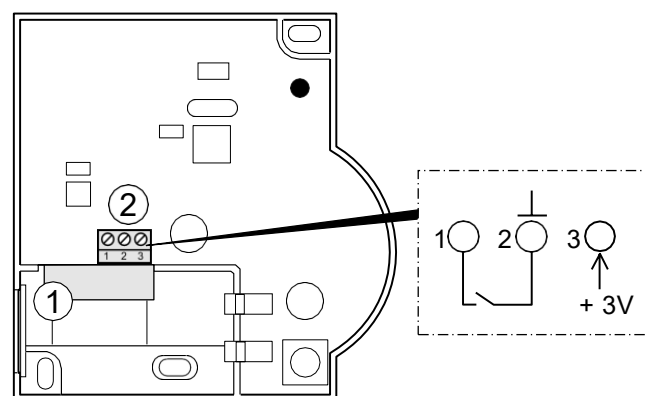

Fig. 7: Connection of the external power source (only HCW 82)
- Lead the outlet cable of the power supply unit through the housing opening (1) (see Fig. 7) to the inside.
- Connect the outlet cable to the terminal (2) (see Fig. 7).
- ▶ Connect any sensor with floating contact to the HCW 82 (installation to connection 1 and connection 2, see Fig. 7(2), Page 9).